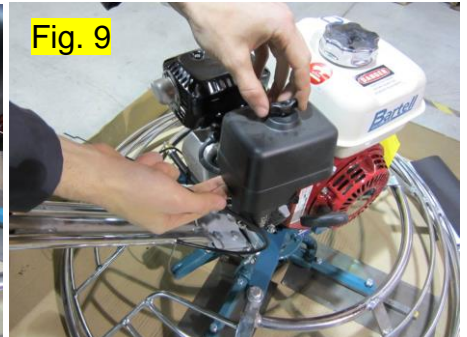

Fig. 9
Step 6: Remove air filter cover and air filter. (Fig. 9)